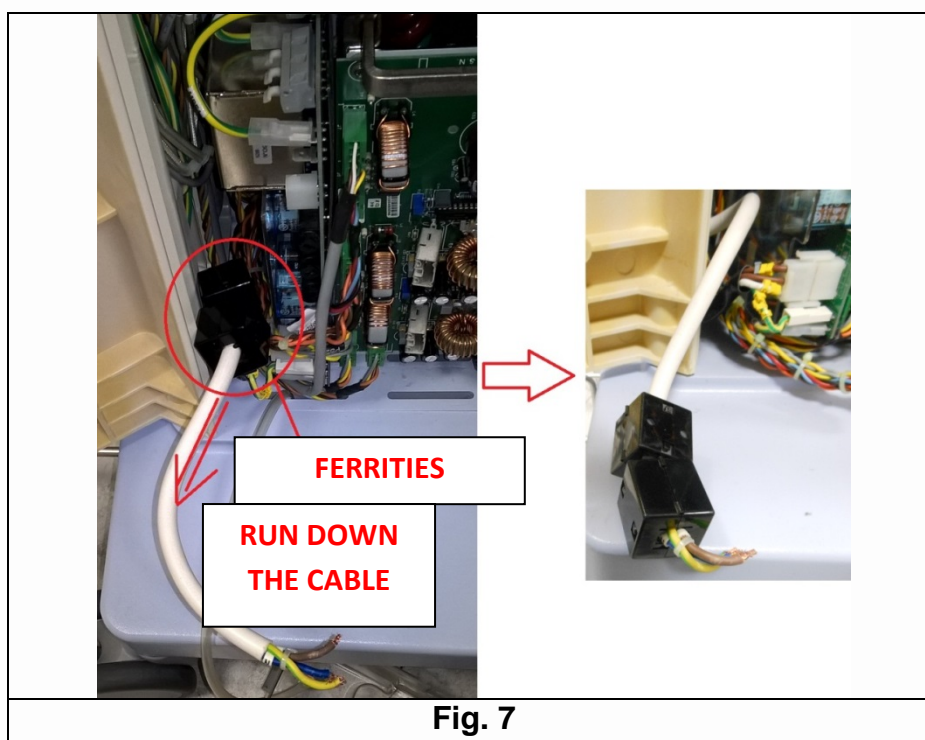

Fig. 7
8. If your Formula machine has black ferrites, slide the black ferrites on the power supply cable down the power supply cable (toward the PSU attachment wires). Place the power supply cable with attached ferrites out of the machine and to the side so it does not interfere with the removal of the PSU (**Fig. 7**).